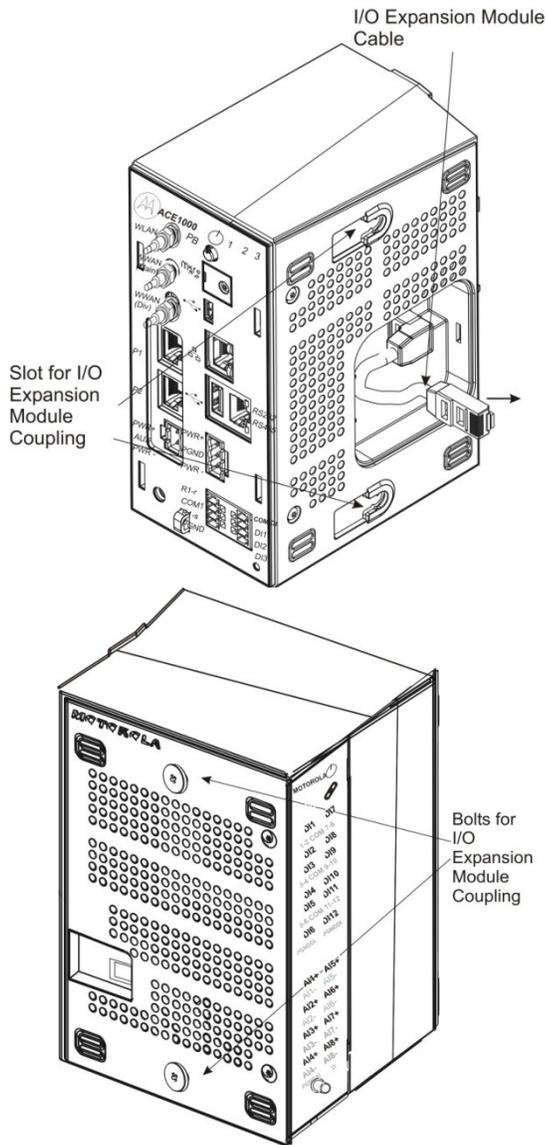

Figure 2-7 ACE1000 CPU Connection to I/O Expansion Module
- 2) Click the 90° bent end of the 10-pin I/O connector cable into the RJ50 connector on the right side of the leftmost I/O expansion module. See Figure 2-7.
- 3) Click the other end of the I/O 10-pin connector cable into the RJ50 connector on the left side of the next I/O expansion module. See Figure 2-7.